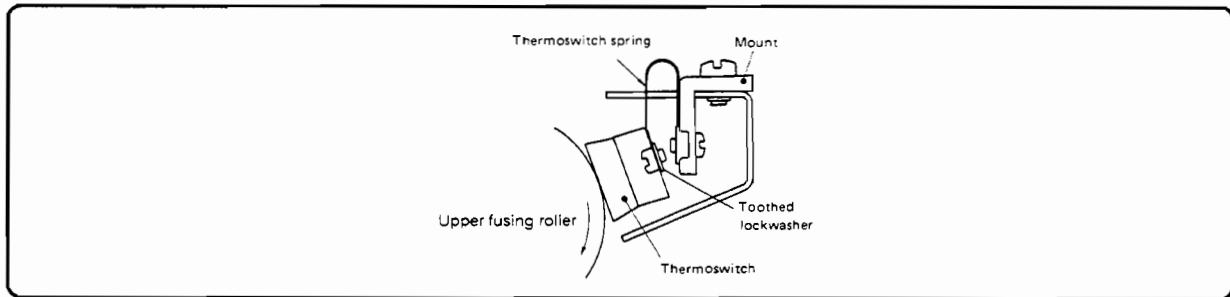

Figure 6-83. Thermoswitch Installation
4. The thermoswitch opens at $250 \pm 14^{\circ} \text{C}$. Install the thermoswitch so that it is pressed against the surface of the upper roller by the thermoswitch spring as shown in Figure 6-83.